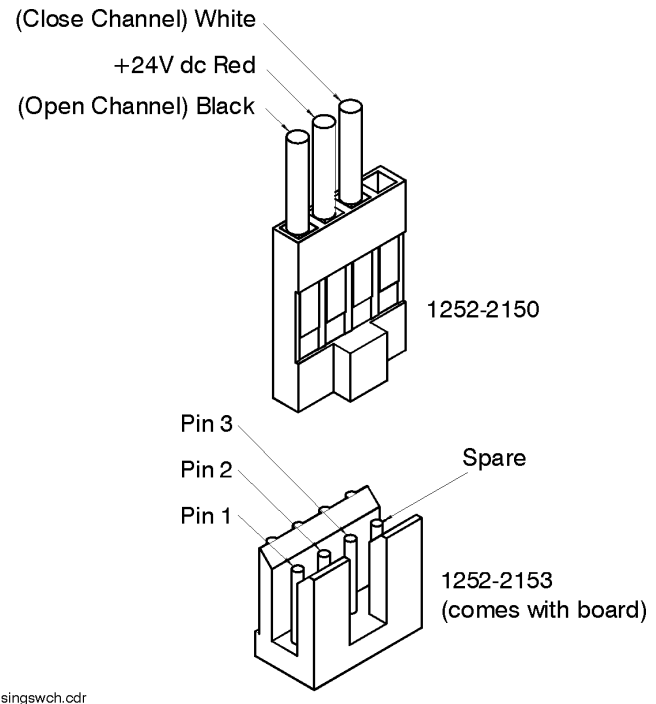

Figure 2-4 Typical Single Switch Channel Connector
- The distribution board has 31 4-pin black output connectors numbered J1 to J31 (silkscreened on the circuit side of the PCA), in addition to 31 mating cables which allow a cable harness to be quickly assembled to connect to relays. Refer to Figure 2-4 for pin wiring that determines an OPEN or CLOSE condition on each switch.
- a. Refer to Figure 2-4 to wire your relays into the arbitrary positions of OPEN and CLOSE.